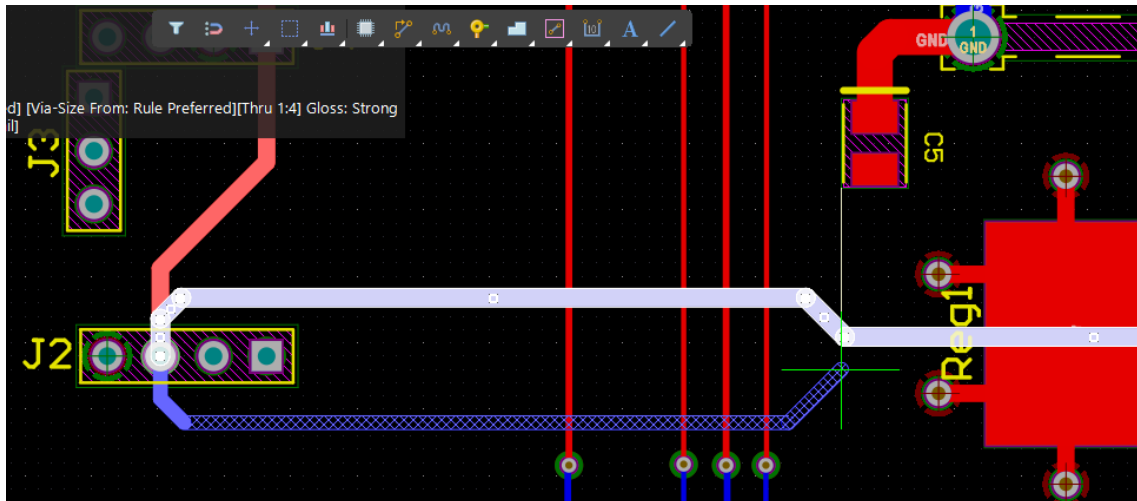

Figure 16. Parallel Routing with remove Loop
35. If you need to adjust a route rather than deleting it, we can route it again. *Automatic Loop Removal* will remove the old redundant tracks automatically. A good connection to try this on is the portion of tracks on the Bottom Layer between J3 and C6, Figure 16.